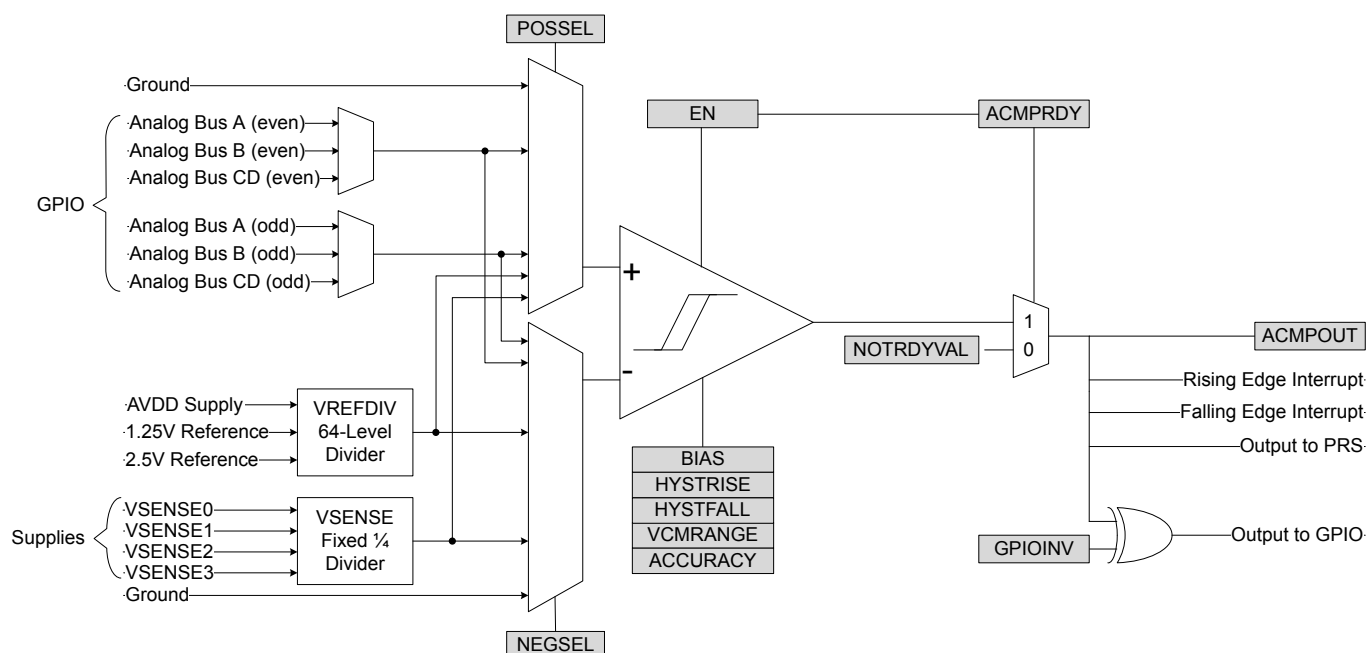

Figure 24.1. ACMP Overview
An overview of the ACMP is shown in Figure 24.1 ACMP Overview on page 740.
The ACMP can be used to monitor supply voltages. This is done by selecting VSENSE01DIV4(LP) or VSENSE11DIV4(LP) for either POSSEL or NEGSEL. Note that the input to the comparator core will be divided by 4, as illustrated in Figure 24.1 ACMP Overview on page 740. To reduce energy consumption, a sample/hold circuit can be used to periodically sample the power supplies. To enable this, select VSENSE01DIV4LP or VSENSE11DIV4LP in POSSEL / NEGSEL. Because the sample/hold feature uses the comparator in a non-continuous fashion, enabling this will increase response times and reduce the accuracy of the comparator. The connections between VSENSE0 and VSENSE1 to power supplies are summarized in the table below.